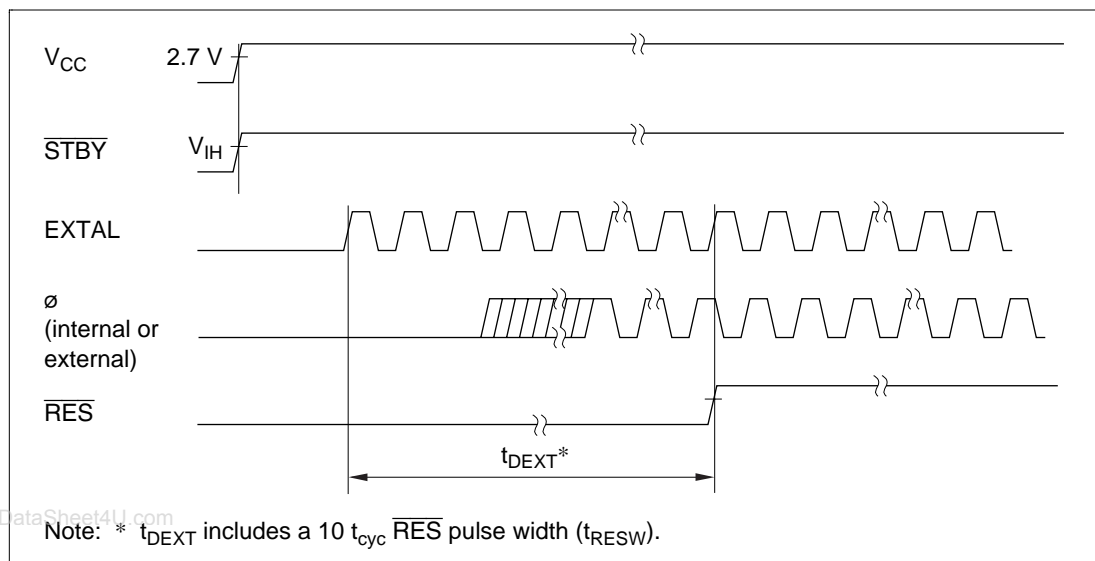

Figure 19.25 External Clock Output Stabilization Delay Time
19.3.9 External Ck Output Timing	Figure 19.25